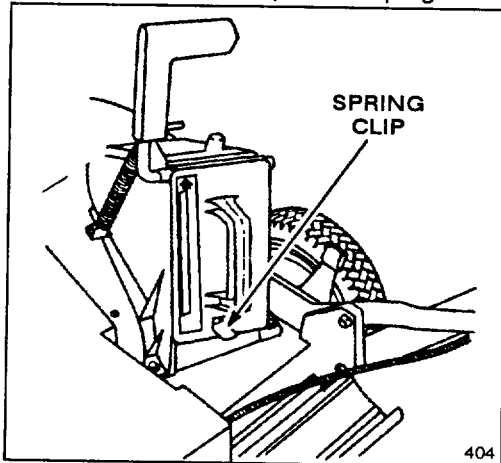

Figure 13
3. Push the plug all the way in until the spring clip on the bottom of the plug clicks into place, locking the plug securely into the discharge tunnel (Fig. 13). Release the discharge door handle to lock the top of the plug.